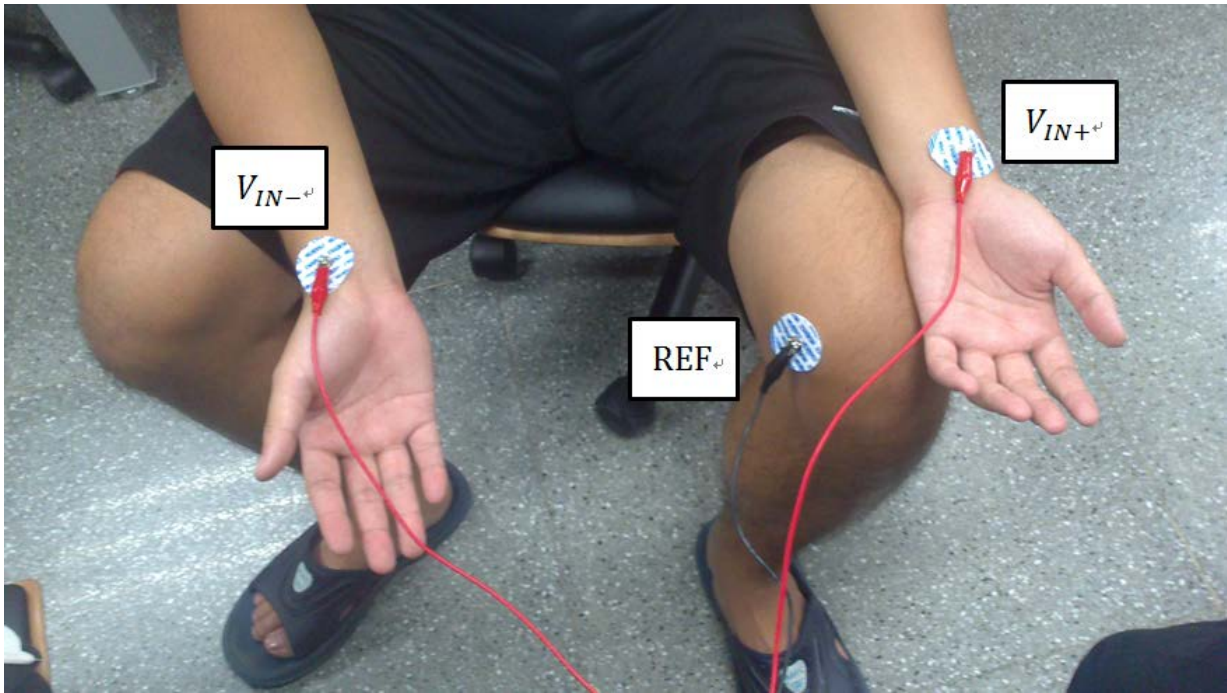

Figure 6: Illustration of ECG measurement.
- (2) Connect the input to wet electrodes and measure your own electrocardiograms as Fig.6. Does the output contain DC offsets or interference? Please answer the following questions